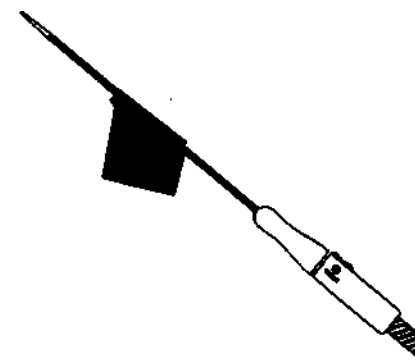

Fig. 4 Activate the hydrophilic coating
- ◆ Use gauze pads with saline solution to wipe the outer sheath and activate the hydrophilic coating. (Fig. 4)